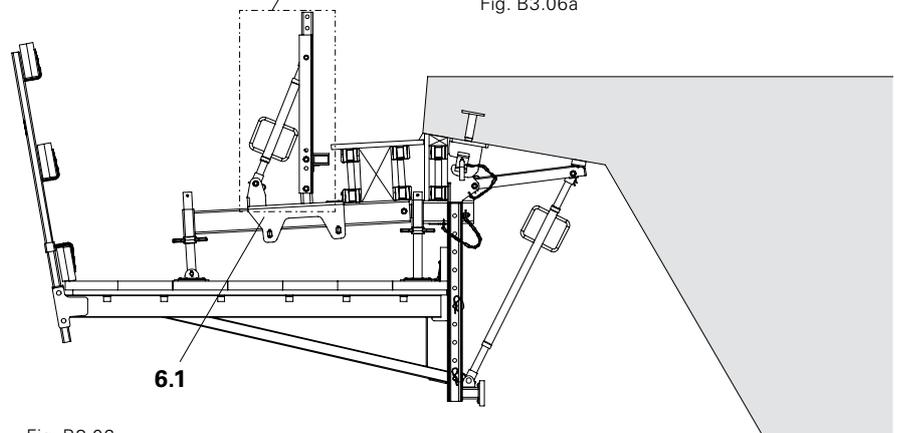

Fig. B3.06
1. Attach Formwork Post VGK 70 (7) to the guide carriage (6.1) by means of bolts.
2. Fix Kicker AV 82 (3.5) to the guide carriage (6.1) and Formwork Post VGK 70 (7) with bolts.
3. Insert Beam Support (7.1) in the corresponding position. (Fig. B3.06 + B3.06a)